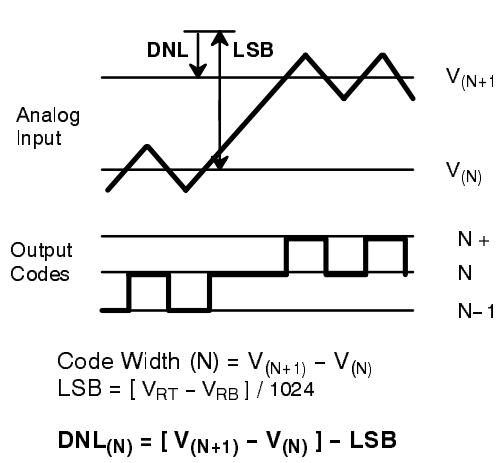
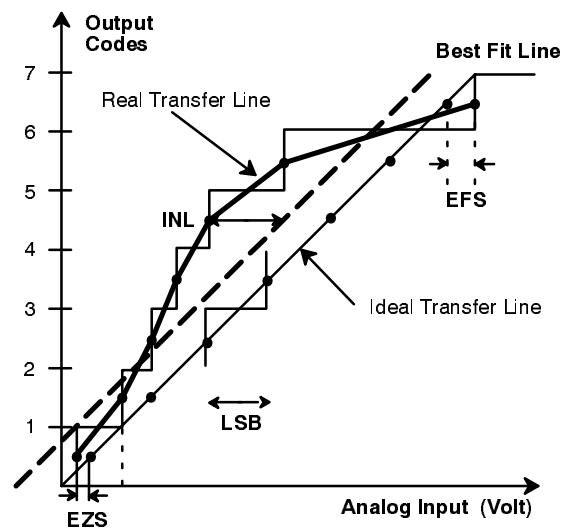

Figure 3. DNL Measurement
Figure 4. INL Error Calculation
- ¹ Tester measures code transitions by dithering the voltage of the analog input (V_{IN}). The difference between the measured and the ideal code width ($V_{REF}/1024$) is the DNL error (Figure 3). The INL error is the maximum distance (in LSBs) from the best fit line to any transition voltage (Figure 4). Accuracy is a function of the sampling rate (FS).